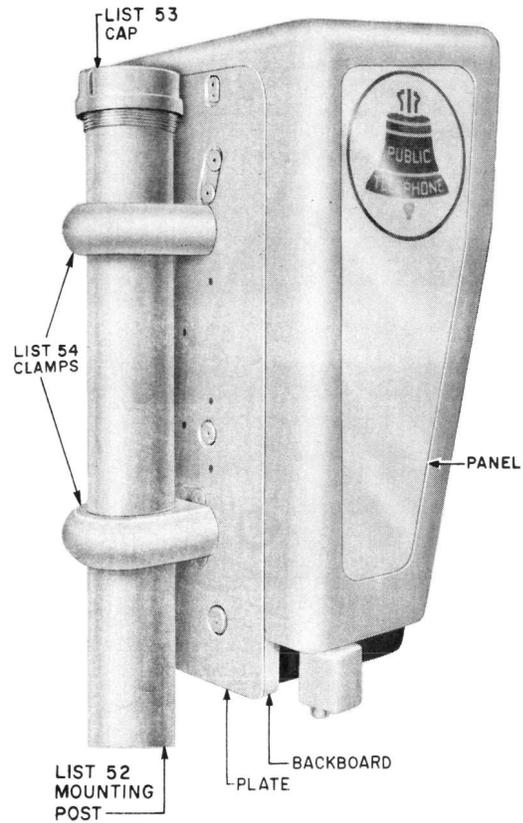

Fig. 8 — Mounting KS-16705, Fastened to Mounting Post
**3.02** An extension mast for attaching public telephone signs can be used on top of the mounting post. Two spacers are furnished with the KS-16705, List 70 mast to space out the ends of signs (Fig. 4). When mast is not used, a cap is placed on the post (see Fig. 8).